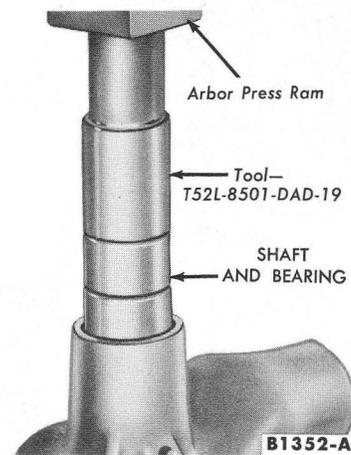

FIG. 3—Shaft and Bearing Removal
2. Position the pump on an arbor press and press the shaft and bearing out of the housing (Fig. 3).